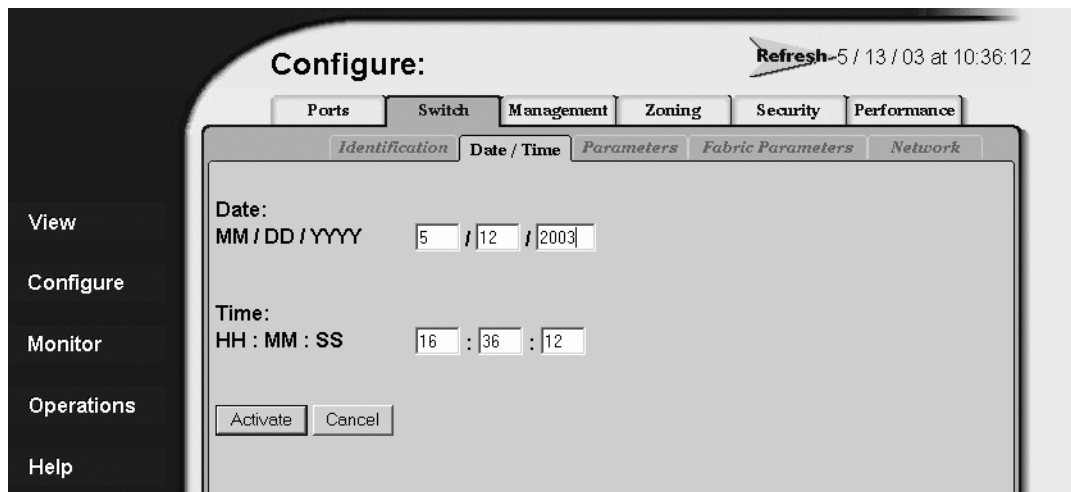

Figure 16: Switch page—Date/Time tab
1. Choose **Configure > Switch > Date/Time**. The Switch page displays with a highlighted red **Date/Time** tab selected (Figure 16).